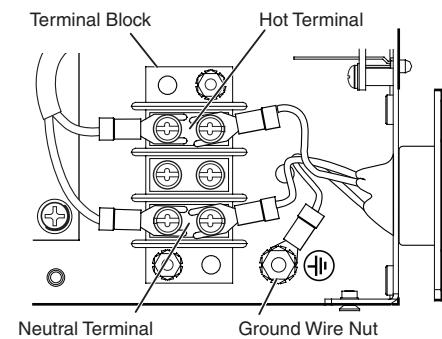

Figure 5 — Terminal block and IEC wiring
5. Use the Phillips head end of an Extron Tweaker or a small standard screwdriver to loosen the screws holding the hot and neutral wires on the side of the terminal block nearest the EMT plate opening (figure 5).